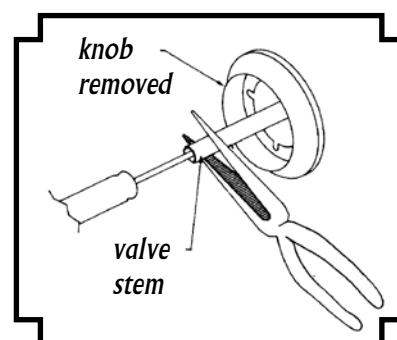

Figure 23-1 - Adjusting side burner low heat setting.
- 4) While holding the valve shaft with pliers, insert a thin flat tipped screwdriver into the shaft and while viewing the burner, adjust to a minimum stable flame (see figure 23-1).